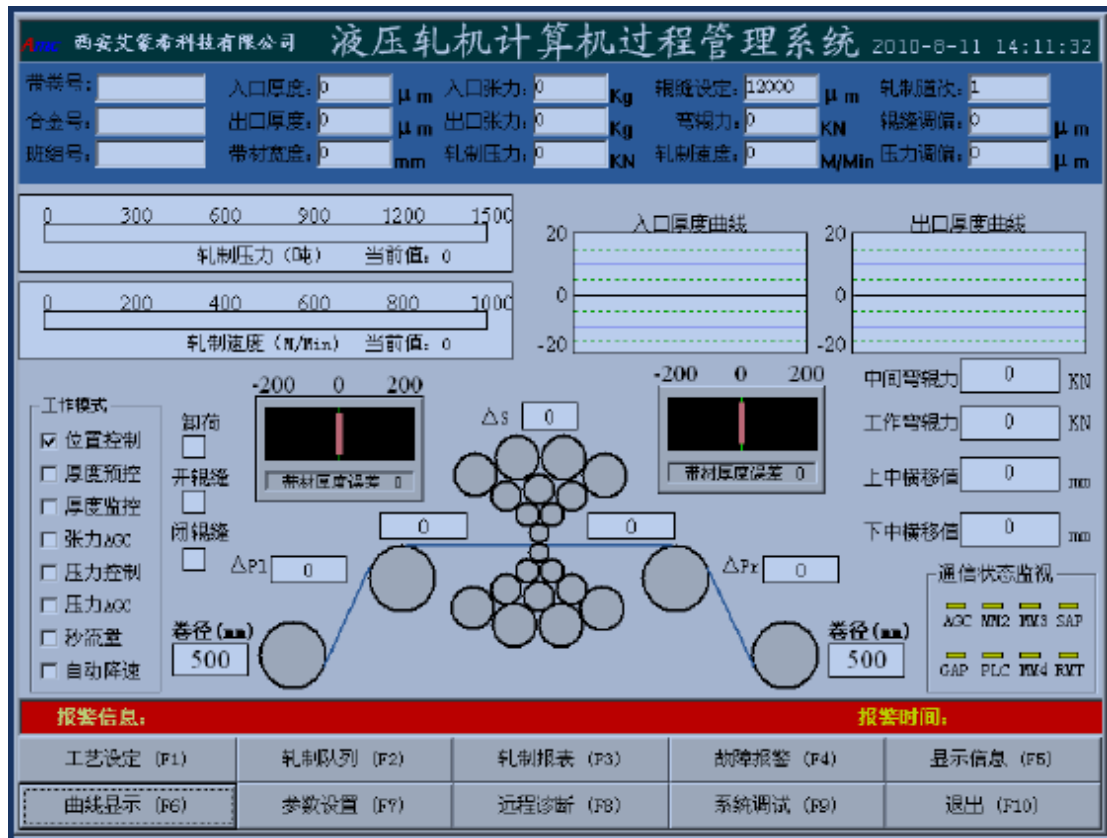

Figure 7 Operation Main Screen
Error alarming information and alarming time are displayed in real-time on main interface. To view the alarming records, click "error alarming" or press F7 key see figure 7.
(14)Error alarming:Click "F4 Error Alarming" for error records, such as error name and error time. See figure 7.